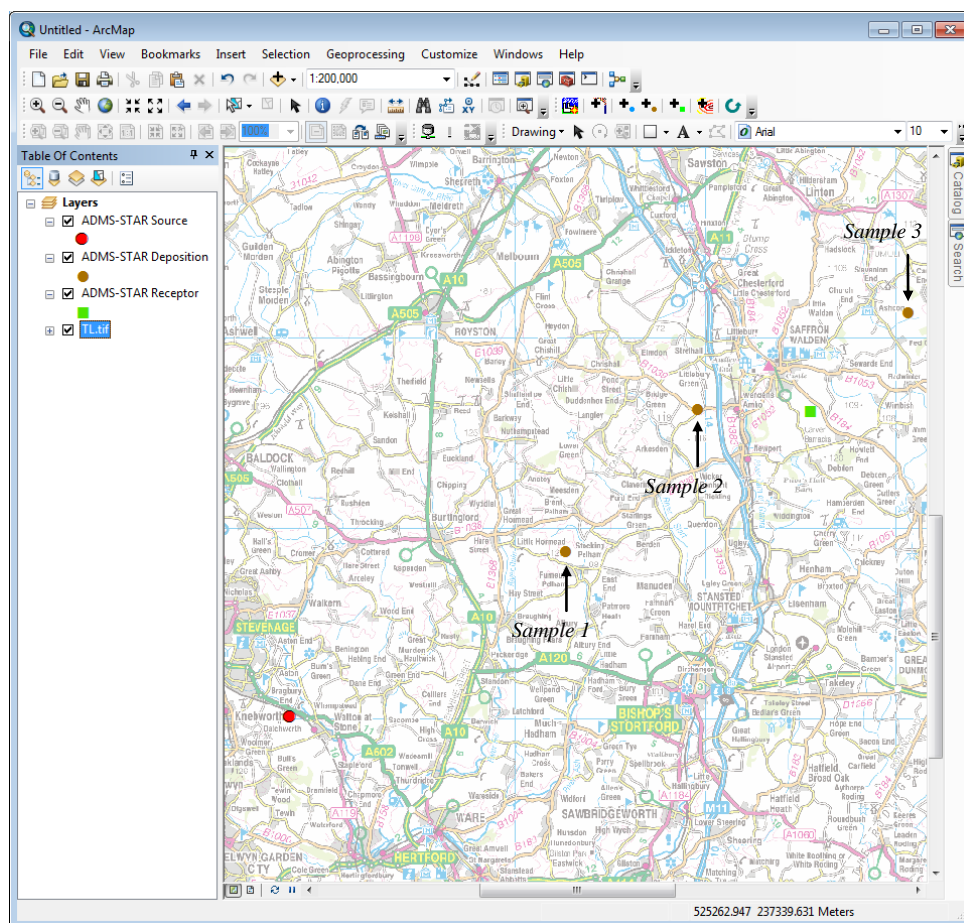

Figure 7.31 - Example 4: defining the deposition sample locations in ArcMap. Sample location shown by brown dots and labelled.
Step 10 In ArcMap, click the **Add a deposition sample**  button from the ADMS-STAR toolbar. Click on the map to add a sample at a similar location to *Sample 1* shown in **Figure 7.31**.
- Step 13** Repeat Step 10 to Step 12 for the next two sample locations shown in **Figure 7.31**. The date, time and strength of each of these two samples are given in the table below: